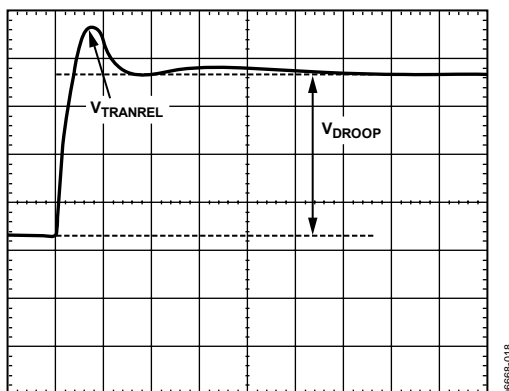

Figure 17. Transient Setting Waveform
20. For load release (see Figure 17), if  $V_{\text{TRANREL}}$  is larger than the allowed overshoot, there is not enough output capacitance. Either more capacitance is needed, or the inductor values need to be made smaller. When changing inductors, start the design again using a spreadsheet and this tuning procedure.